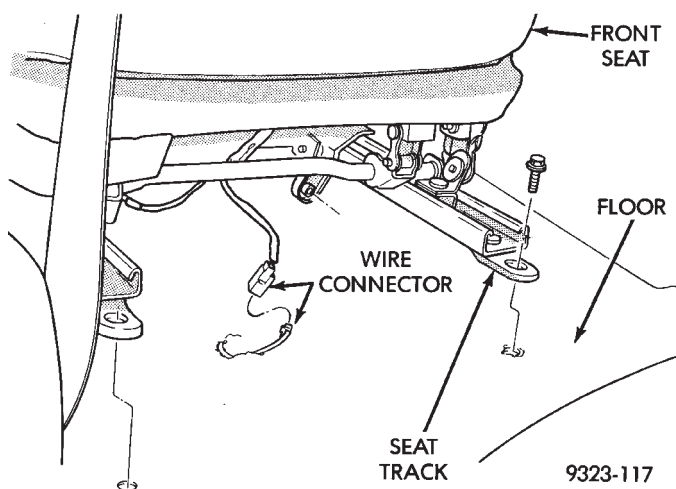

Fig. 1 Front Seat—Typical
- (1) Position seat far enough forward to gain access to rear mount bolts on floor.
- (2) Disengage front seat wire harness connector from body harness connector.
- (3) Remove bolts holding front of the seat track to floor kick-up.
- (4) Remove bolts holding rear of seat track to floor. (Fig. 1)
- (5) Separate front seat from vehicle.